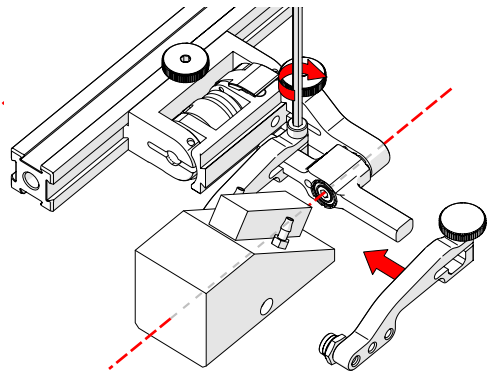

Fig. 135 - Place wedge
7. Position the wedge on the inner probe holder arm (Fig. 135).